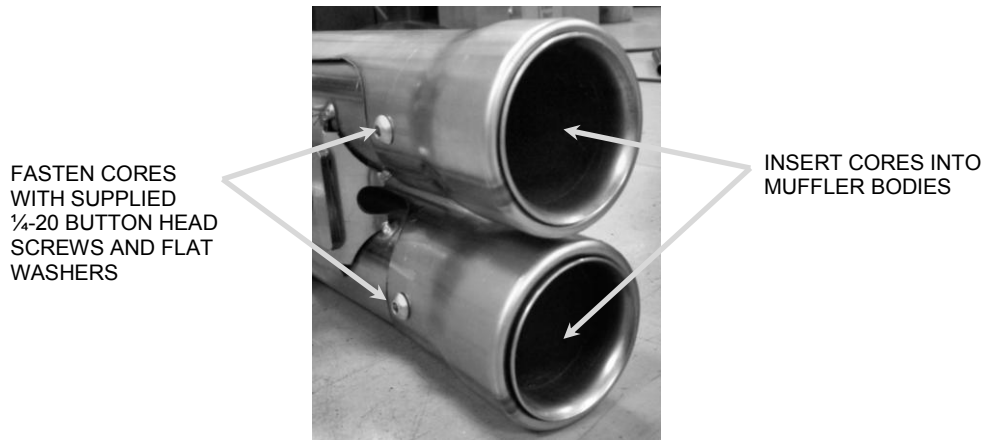

FIGURE 6
20. Align the threaded hole in the core tip with the hole in the heatshield and muffler body and then insert the core into the muffler body until the threaded hole aligns with the heatshield and muffler body. See **FIGURE 6**. (NOTE: If it is difficult to align the heatshield, muffler body and core, then loosen the clamps on the heatshields so the heatshields can move forward or backward.) Install the other core in the same way.
21. Insert the supplied ¼-20 button head screws and 1/4" flat washers through the heatshields and muffler body into the threaded holes in the core tips and snug the screws. Do not tighten at this time. See **FIGURE 6**.